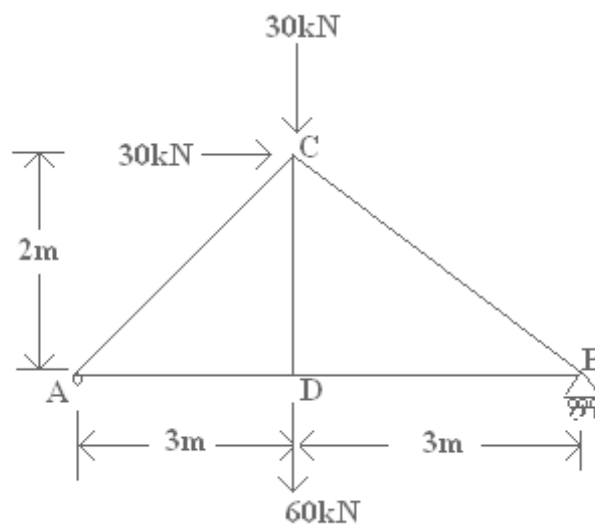

Figure 3
- Using the method of sections, find the magnitude and nature of forces in all the members of the pin-jointed, simply-supported, plane frame shown in figure 3. Make the forces in the frame. [16]